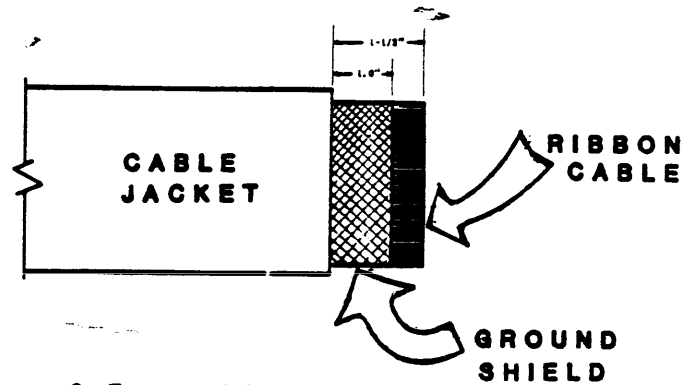

Figure 3-7. Cable Jacket
- a. Remove approximately 1-1/2 inches of the cable jacket on the transport end of the I/O cables (Refer to Figure 3-7).